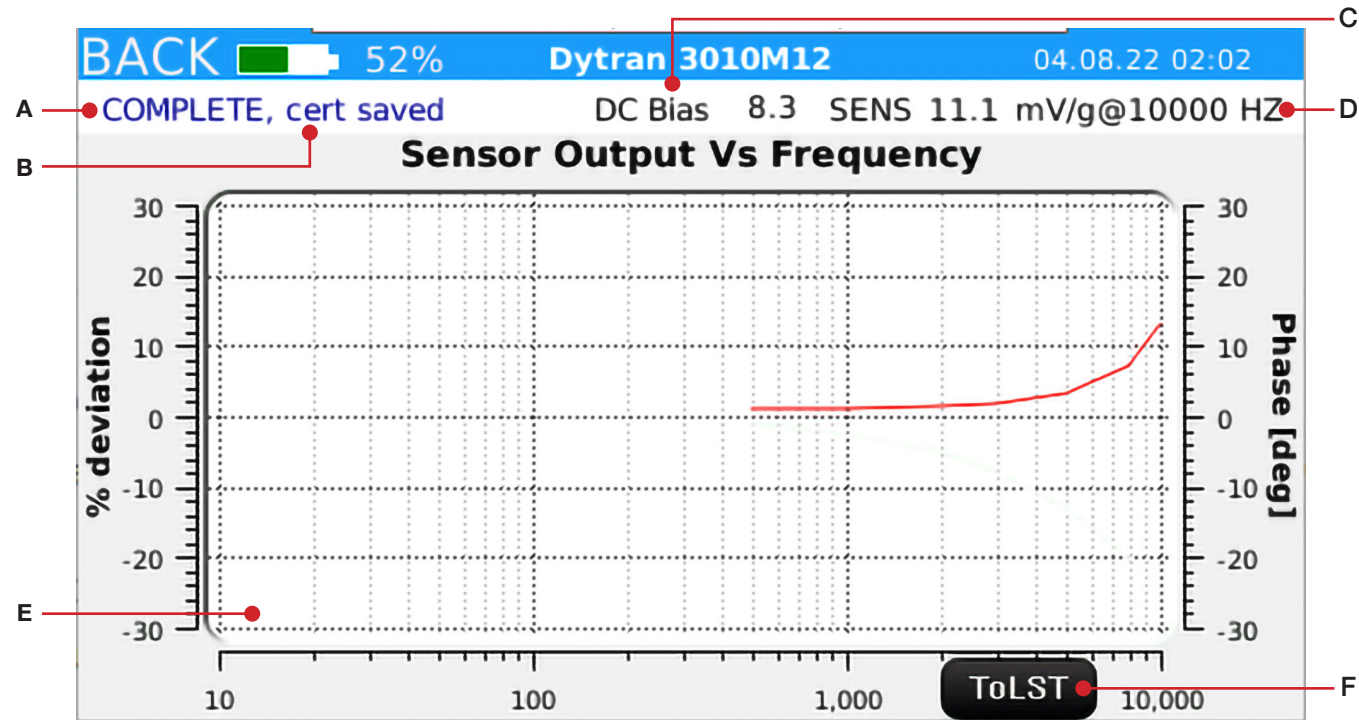
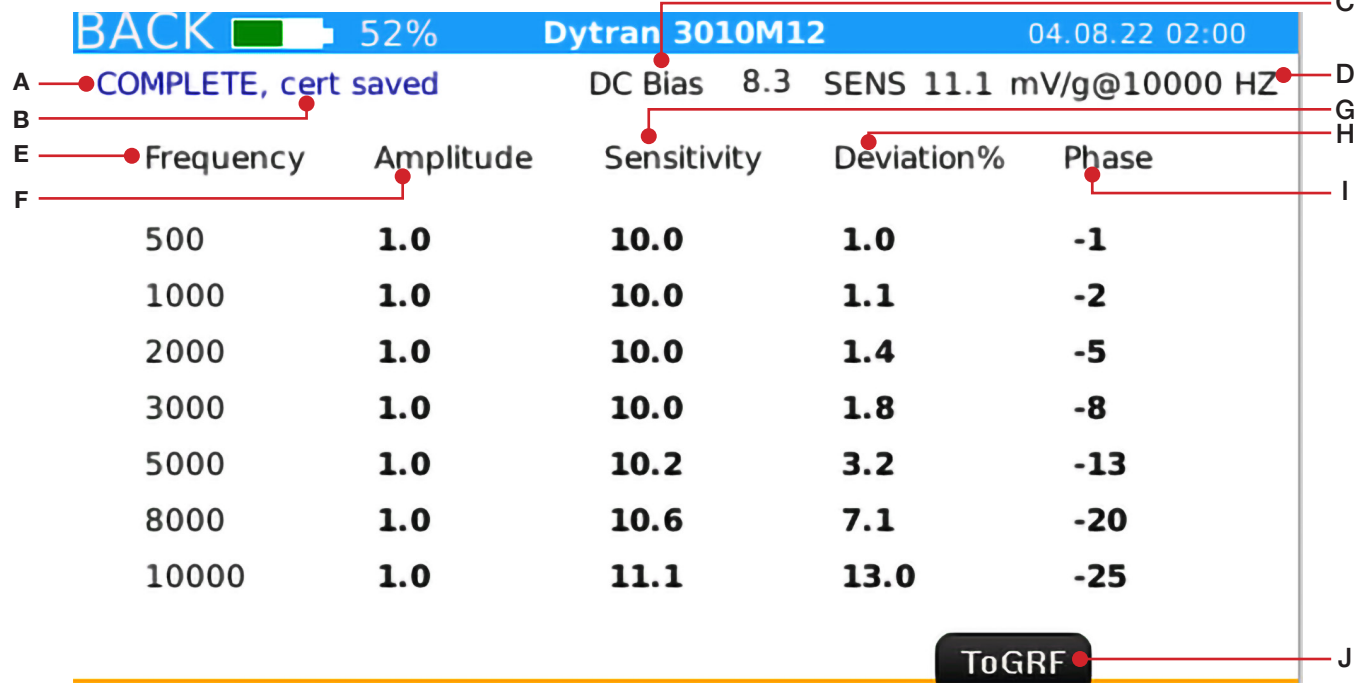

Figure 21. Automatic testing screen – graph view
Figure 22. Automatic testing screen – table view
During an automatic test, the test status bar at the top and the graph (Figure 21) or table (Figure 22) show progress information.
- F. **ToLST Button:** Select the button to switch to table view in real time (Figure 22).
- 10. **ToGRF Button:** Select the button to switch to graph view in real time (Figure 21).